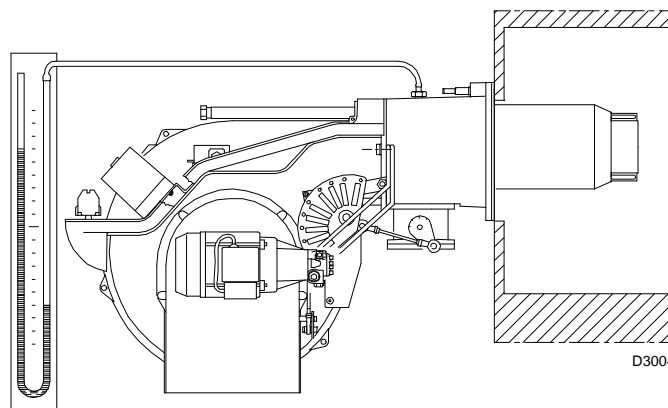

Fig. 34
- Fit a U-type manometer (Fig. 34) to the gas pressure test point on the sleeve.
The arrival of gas at the sleeve is indicated by the U-type manometer (Fig. 34).
A guideline indication can be calculated from the Tab. K at page 23, simply read off the gas pressure on the U-type manometer, see Fig. 34 at page 27, and follow the instructions on page 23.